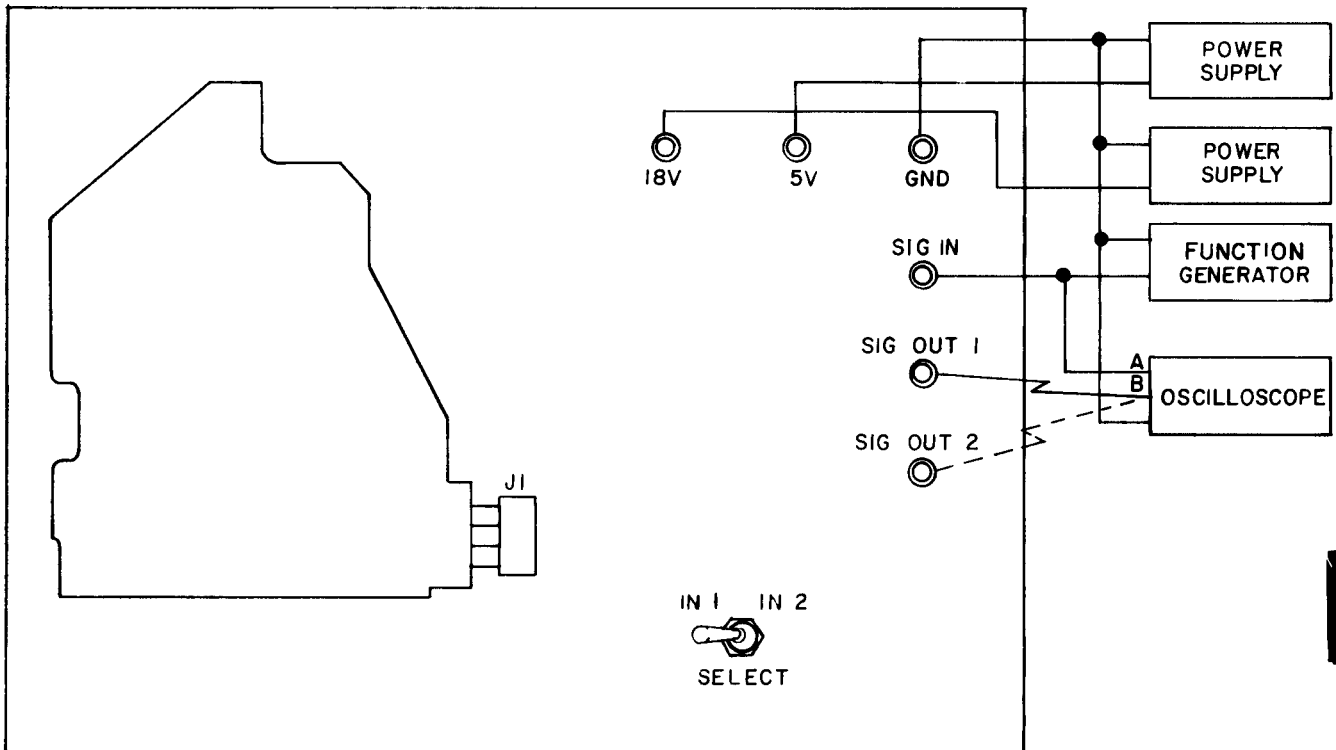

Figure 6-13. HAMMER DRIVER MODULE TEST SETUP.
c. Test Setup Procedure for Hammer Driver Module (fig. 6-13).